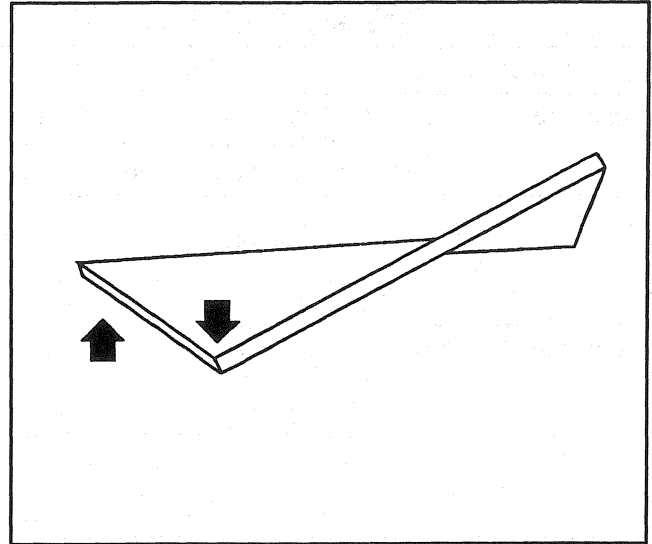

Figure 5—Twist (Damage Condition)
9. **TWIST** refers to the condition where the sides of the underbody plane (datum) are not parallel. One rail will slope up while the other rail will slope down (Figure 5).